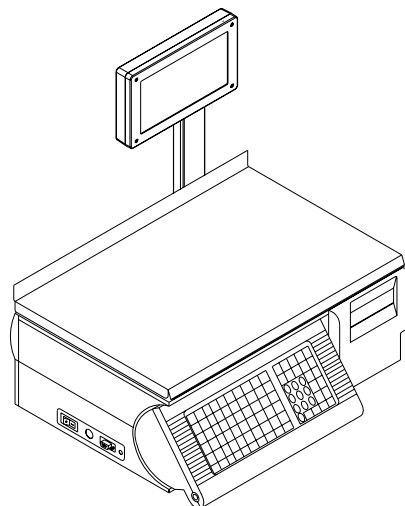

Figure 3-4: Empty Platter
1. The display will show **Empty Scale, Enter**. Make sure scale pan is empty, then press the ENTER key (Figure 3-4).